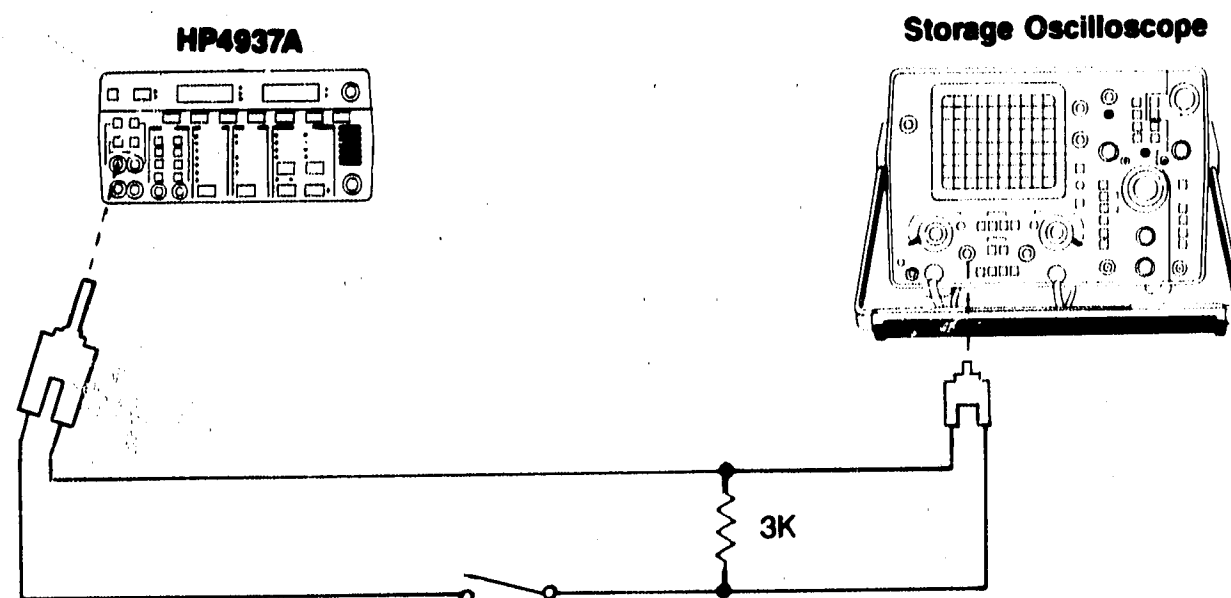

Figure 4-19. Loop Reverse Battery
9. Connect the equipment as shown in Figure 4-19.